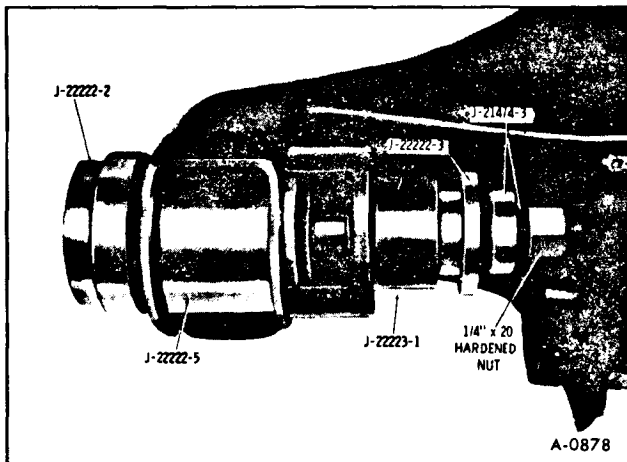

Figure 24—Installing Lower Control Arm Rear Bushing
1. Install Tools as shown in Figure 24 and press rear bushing into lower control arm.